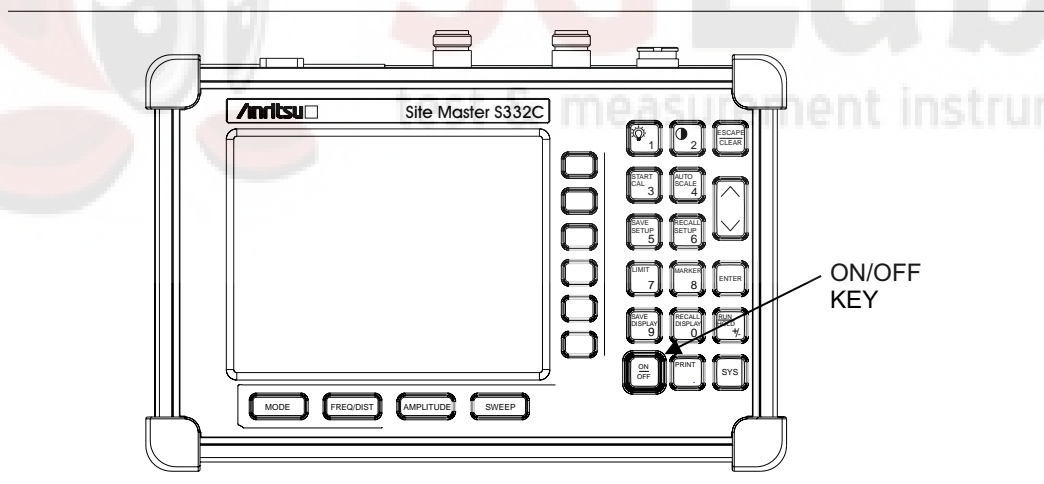

Figure 3-1. Site Master On/Off Key
Step 1. Press the **ON/OFF** front panel key (Figure 3-1).